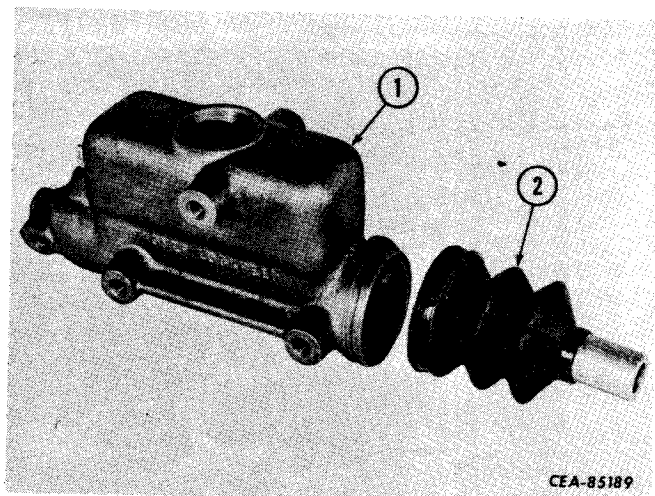

Figure 13-62
Separate the piston rod boot (2, Fig. 13-62) from the hydraulic cylinder (1).